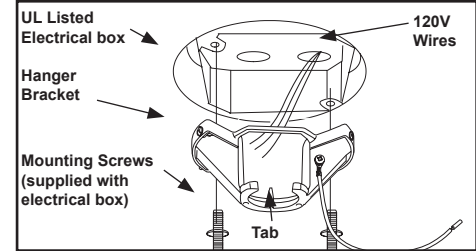

Figure 6
3. Disassemble the downrod assembly before passing the 120-volt supply wires through the center hole in the ceiling hanger bracket as shown in Figure 6.